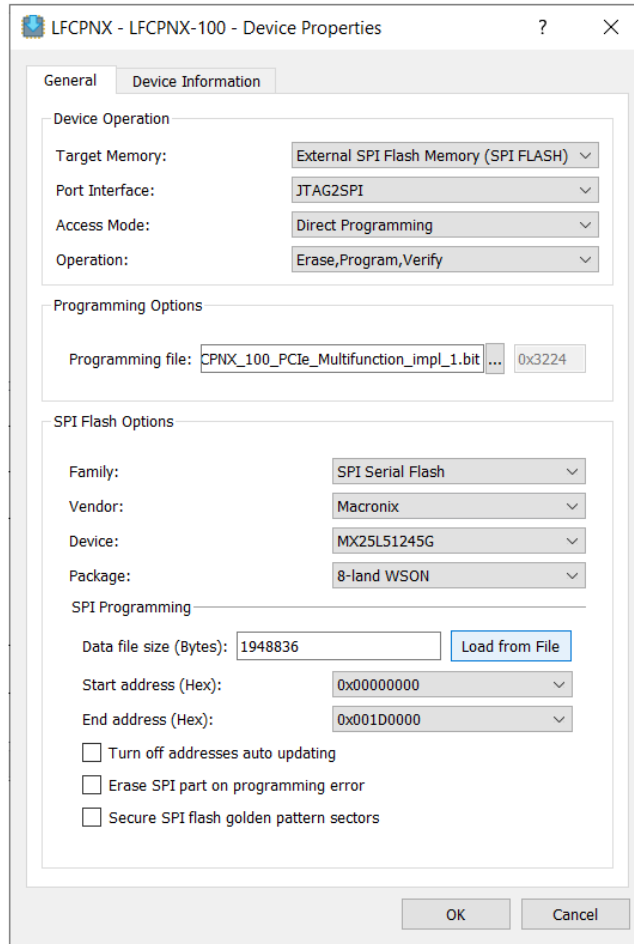

Figure 5.5. Device Properties Window for CertusPro-NX SPI Flash Programming (with Macronix Flash)
- Select the settings as shown in Figure 5.5 for CertusPro-NX.